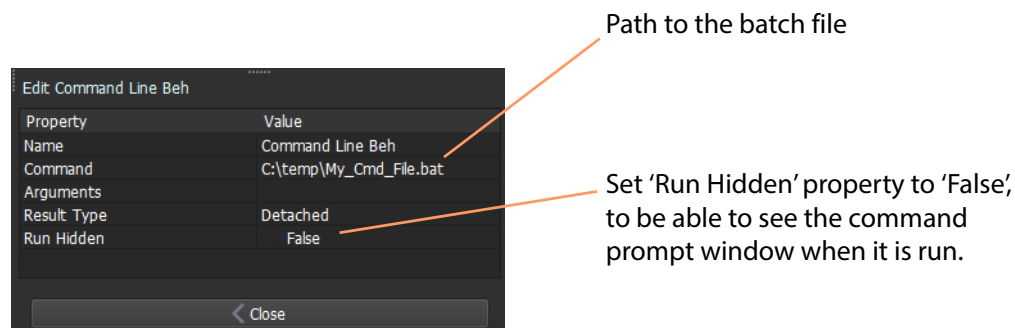

Fig. 7-41: Command Line Behaviour Settings
- 4 Set the 'Command' property of the **Command Line** Behaviour to be the path to the batch file. (C:\temp\My_Cmd_File.bat) See Figure 7-41.